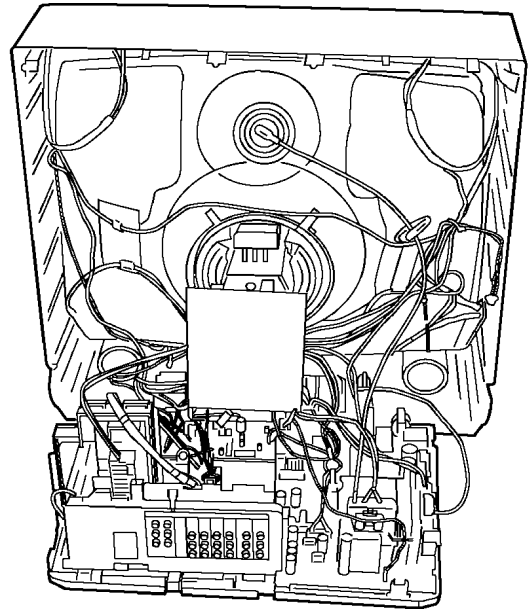

Fig. 3.
1. Hold and lift the rear of the chassis and gently pull the chassis towards you as shown in Fig. 3.